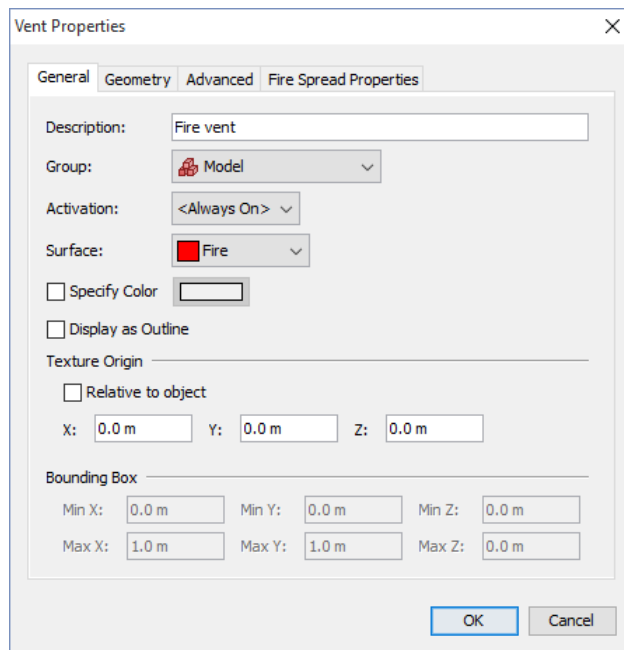

Figure 9. Creating the fire vent
2. In the **ID** box, type **Fire vent**, Figure 9.